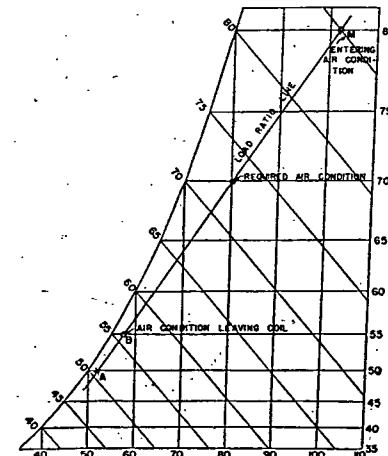

FIG. 13. PSYCHROMETRIC LAYOUT FOR COIL SELECTION
Solution. (1) Lay out the problem psychrometry as indicated in Fig. 13 and note that the minimum horizontal distance between the load ratio line and the saturation curve is 1.8 F dry-bulb at point A Fig. 13. This means that $t_2 - t_{dps}$ in Equation 7